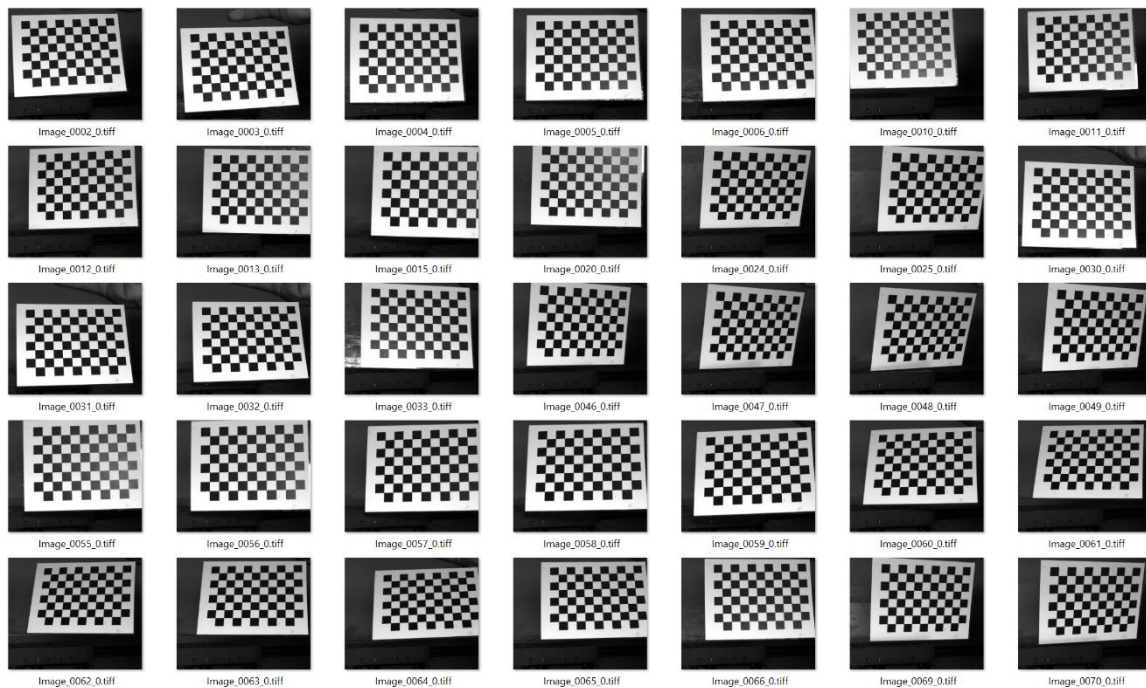

Figure 3. Example images of a checkerboard calibration target.
Take a few dozen (at least 20, preferably 50 or more) images with the checkerboard positioned in different positions and orientations (tilting angles) in the field of view of the cameras, covering the entire field of view of the cameras. See for example Figure 3 **Error! Reference source not found..**
- Figure 3 plotting the same as 2, but instead of points, the triangular faces are plotted, and the face colors represent the combined (maximal) correlation coefficient of the three vertices.